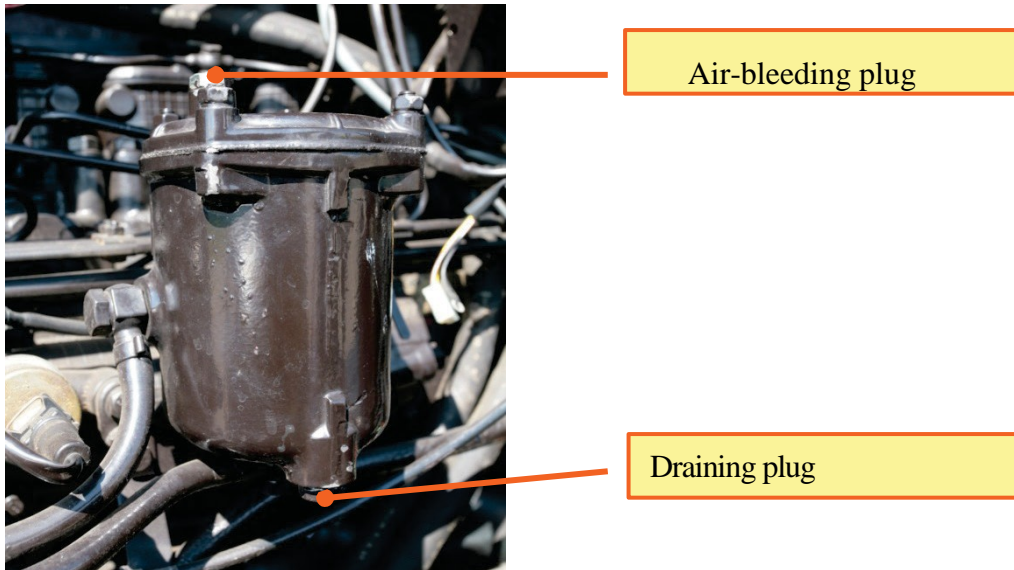

Figure 8.34
**Procedure 28. Draining Sediment and Sludge from the Fuel Fine Filter (fig. 8.34)**